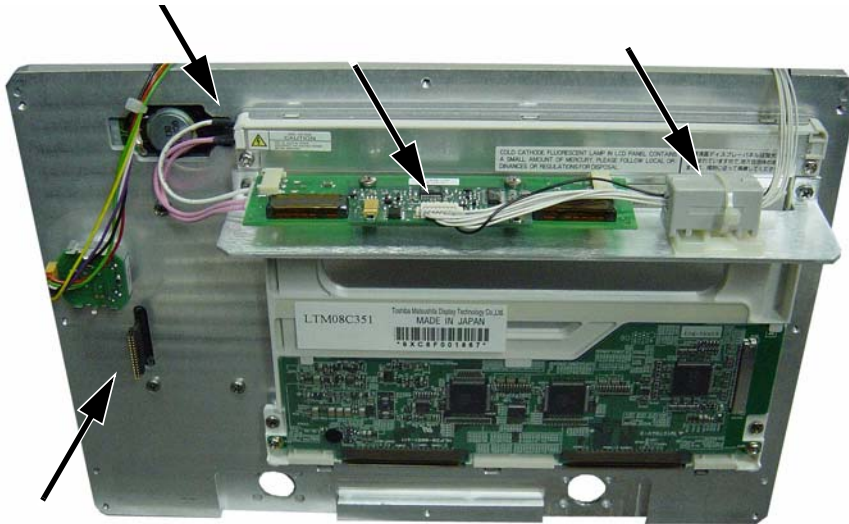

Figure 5-25. Front Panel, Separated
1. With the front panel face down on a static protected work surface, unplug the backlight inverter cable from the end of the backlight driver PCB, release the noise filter (220 Ohm ferrite core) from the backlight driver PCB support bracket (cut the cable tie), and unplug the cable from the SPA PCB to the center of the backlight driver PCB (refer to Figure 5-25)